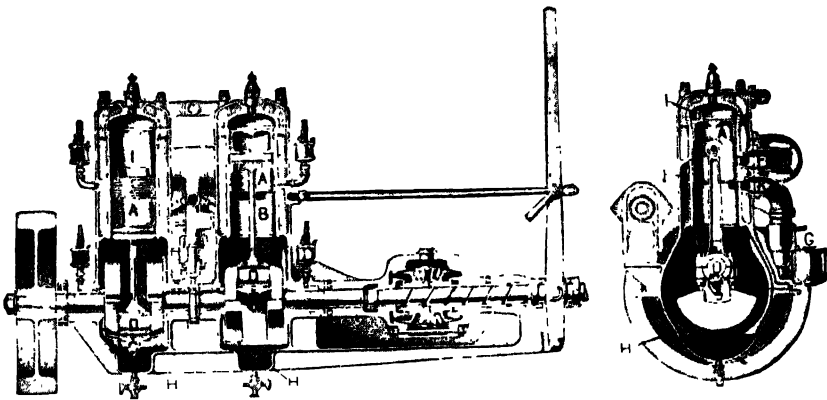

FIG. 78.—Two-cycle—Two-cylinder Engine. (Tidewater Oil Co.)
- (b) Two-cylinder (see Fig. 78).
- (a) Two-stroke-cycle (see Fig. 78).